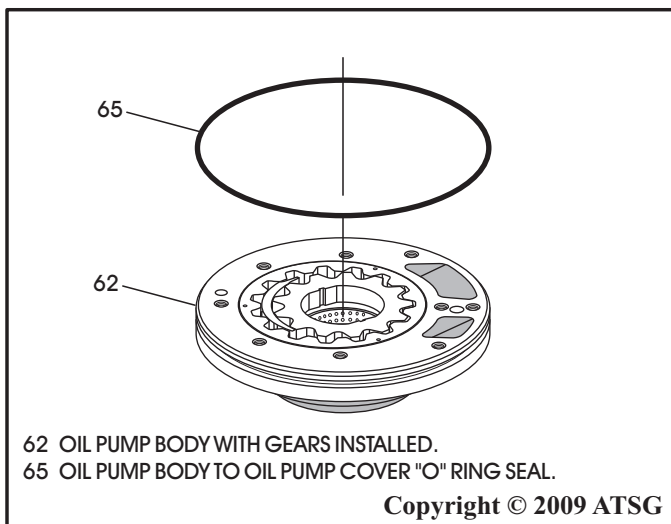

Figure 89
12. Install new oil pump body to oil pump cover "O" ring seal, as shown in Figure 89, and lube a small amount of Trans-Jel®.